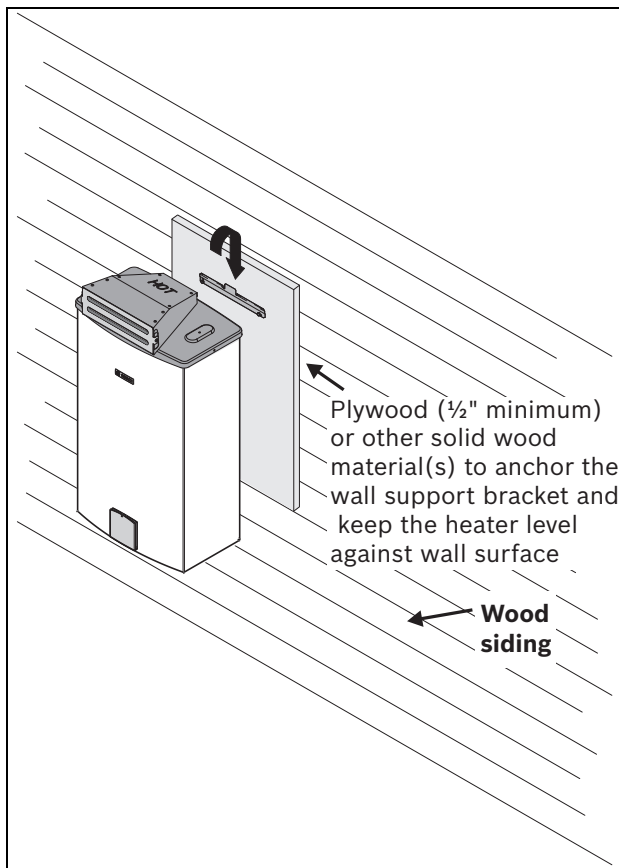

Fig. 13 Installation on wood siding
- ▶ The water heater is approved for installation directly on an outside wall. Secure the wall mounting bracket provided with the water heater to a wall surface. See Fig. 13.